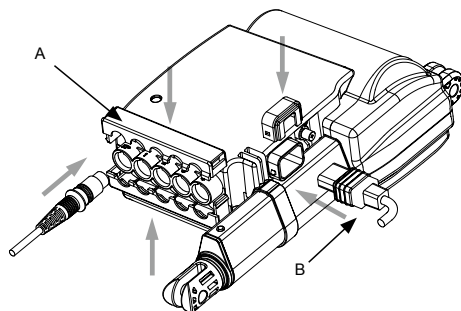

Fig.3
- b. After inserting connectors of an actuator and a key box , vertically insert back the fixer on LAK4D controller (A) , and then fasten the up fixer and down fixer on LAK4D controller (Fig. 3). Before inserting the main power cord , rotate out the locker (B) along the arrow direction to insert power cord (Fig. 3) and then pull it back (Fig. 3) along the arrow direction.